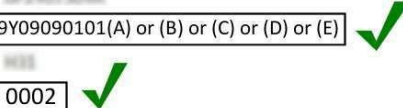

Figure 2
4) Referring to Figure 2 - Select Special functions (1) Select SVM – Problem related Hardware/Software Update (2), Select Perform test (3)